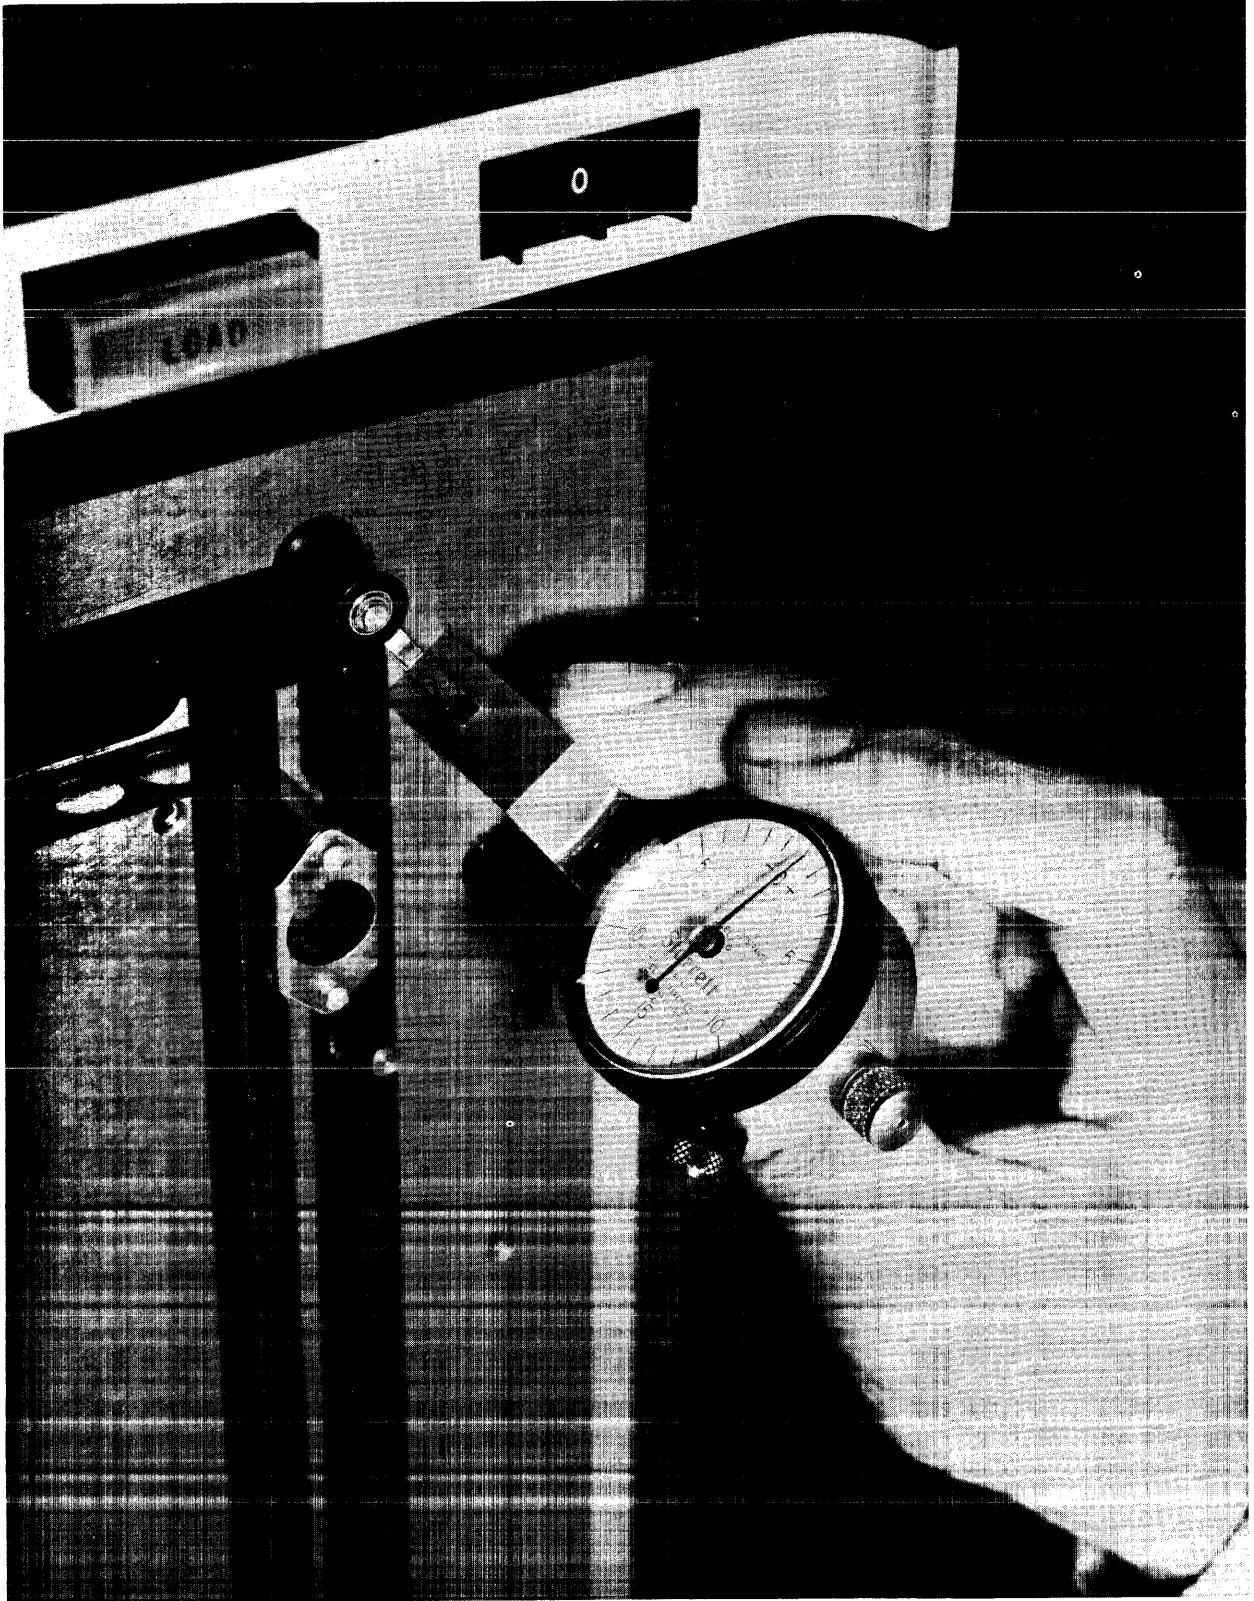

Figure 42. Roller Guide Adjustment
5. When replacing item 10, maintain .015 inch clearance with item 5, to ensure the drum turns freely.
6. The mechanical alignment of these guides is accomplished through the use of a height gauge (WANGCO P/N T00032), the use of which is illustrated in Figure 42.